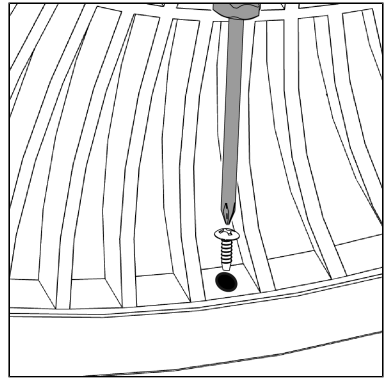

Figure 27.
7. Unscrew the safety screw at the bottom of the rear grille (Figure 27).